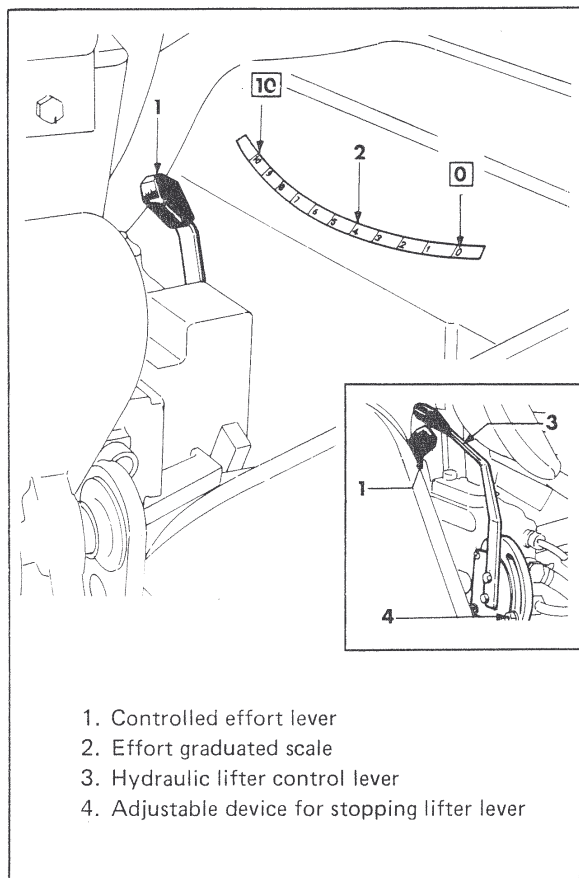

Figure 13. Use of the controlled effort hydraulic lifter
Make sure the controlled effort lever (fig. 13, item 1) is disengaged (position 10 of graduated scale).
The controlled effort lever makes it possible adjusting the hydraulic lifter sensitivity as follows (see fig. 13):
Operate the controls as follows (see fig. 13).
3. Adjust the lifter sensitivity actuating lever (1) as shown in figure 13.